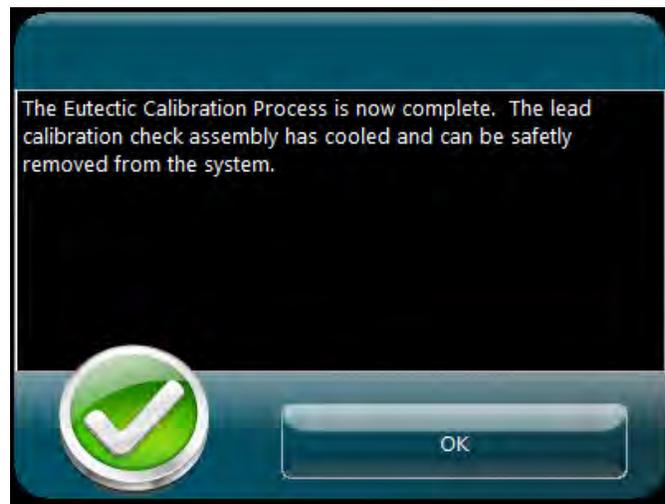

Figure 5-6 – Eutectic calibration complete pop-up
16. A seven (7) minute cooling timer will start to cool the lead calibration assembly. When timer has timed out, cooling will stop and a pop-up notification (figure 5-6) will appear notifying the operator that the calibration sequence has completed.